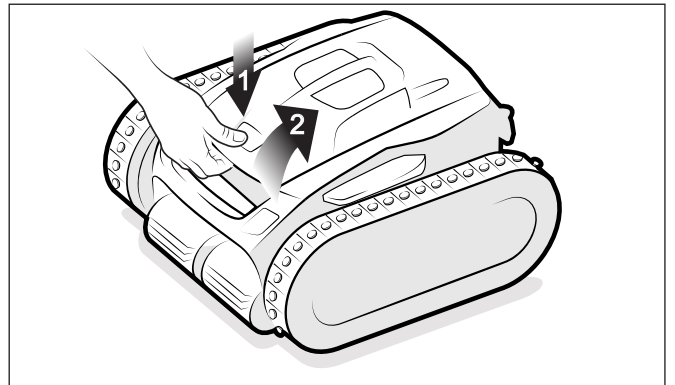

Figure 13. Lift Cleaner Cover
3. Push the cover lock (1) and lift the cover (2) until it is secured in the vertical position (Figure 13).